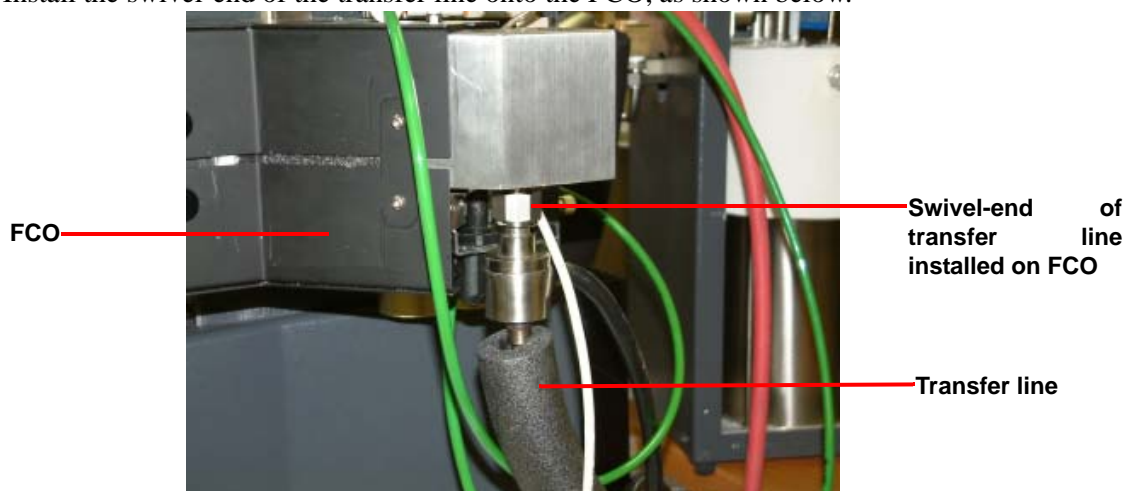

Figure 8 Transfer line installed on FCO.
- a Remove the plug from beneath the FCO; this is where to install the transfer line. Refer to Figure 8 for the location of the plug.